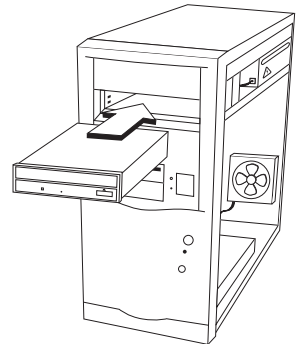
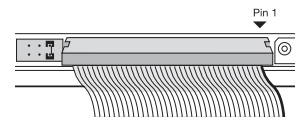

Fig. 5
Fig. 6
- ⑦ Slide the NEC DVD drive into the empty drive bay, from the front of the computer. [Fig 5]
- ⑧ Mount the drive to your computer's chassis using the existing mounting hardware, or the provided screws (refer to your computer's documentation).
- ⑨ Connect the interface cable, making sure the red stripe matches Pin 1 on the drive. If your drive is set to MASTER, connect it to the endmost connector on the cable. [Fig. 6]